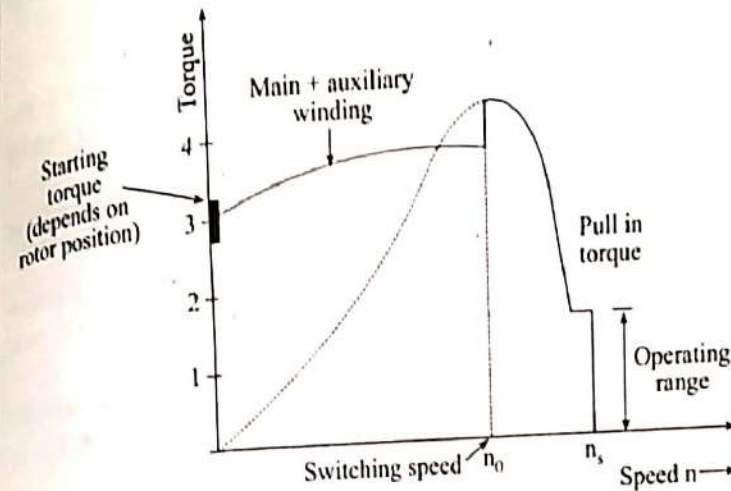

Fig. 2. Torque-speed characteristic of reluctance motor.
- Fig. 2 shows the typical torque-speed characteristic of the 1- ϕ reluctance motor.
- The ring is made of special magnetic material such as magnetically hard chrome or cobalt steel having very large hysteresis loop as shown in Fig. 2.
- Ordinary steels are not suitable for a hysteresis motor since their hysteresis loop resemble loop 3 in Fig. 2.